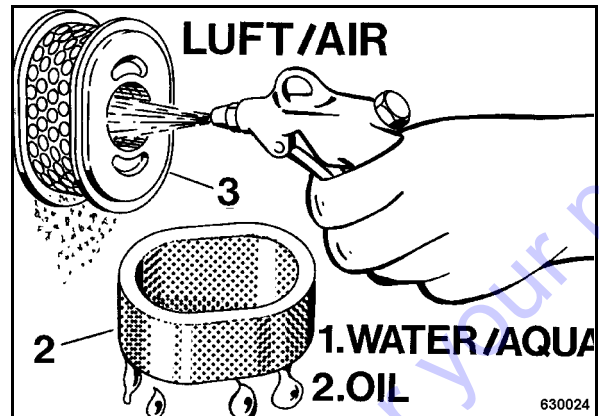

Fig. 47
- Blow the paper element (3) (Fig. 47) carefully out from inside to outside with dry, clean compressed air (do not exceed 29bar). In case of excessive contamination replace the paper element.
- Clean the foam insert (2) in warm soapy water, rinse it and let it dry thoroughly.